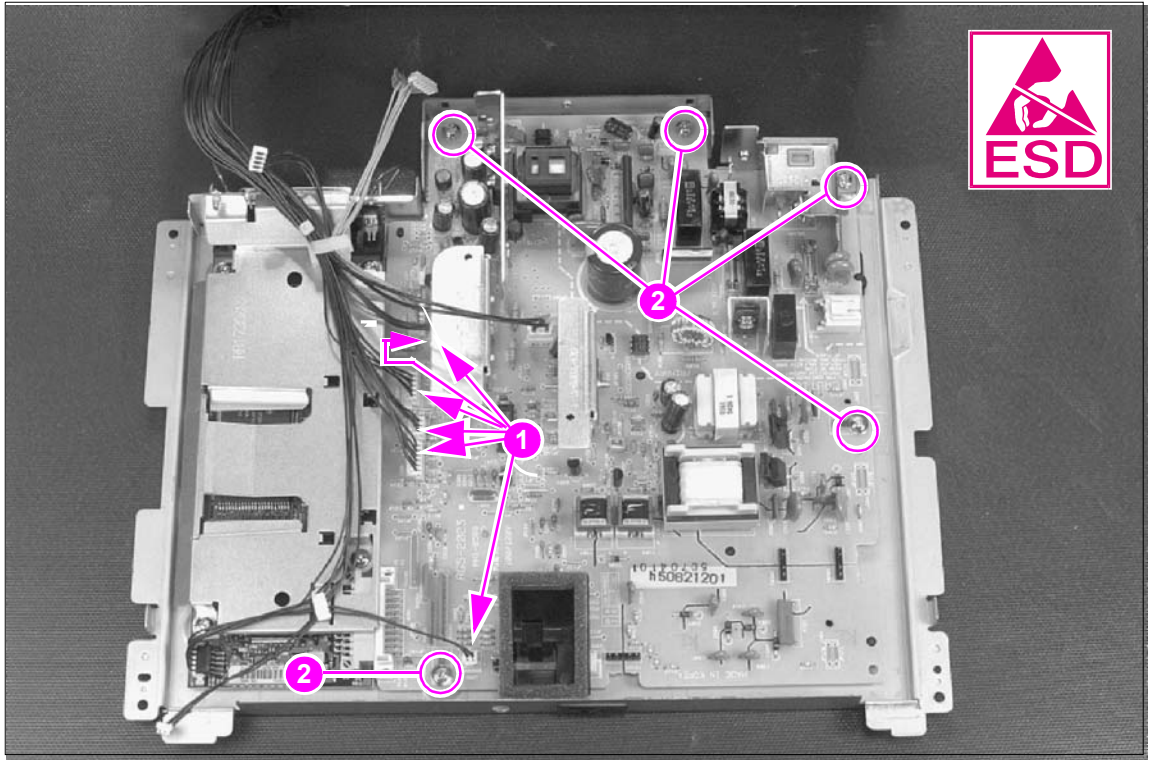

Figure 6-42 DC Controller removal (3 of 3)
- 9 Remove the (7) remaining connectors (Figure 6-42, callout 1).
- 10 Remove the screws (5) that secure the DC Controller to the metal case (Figure 6-42, callout 2).